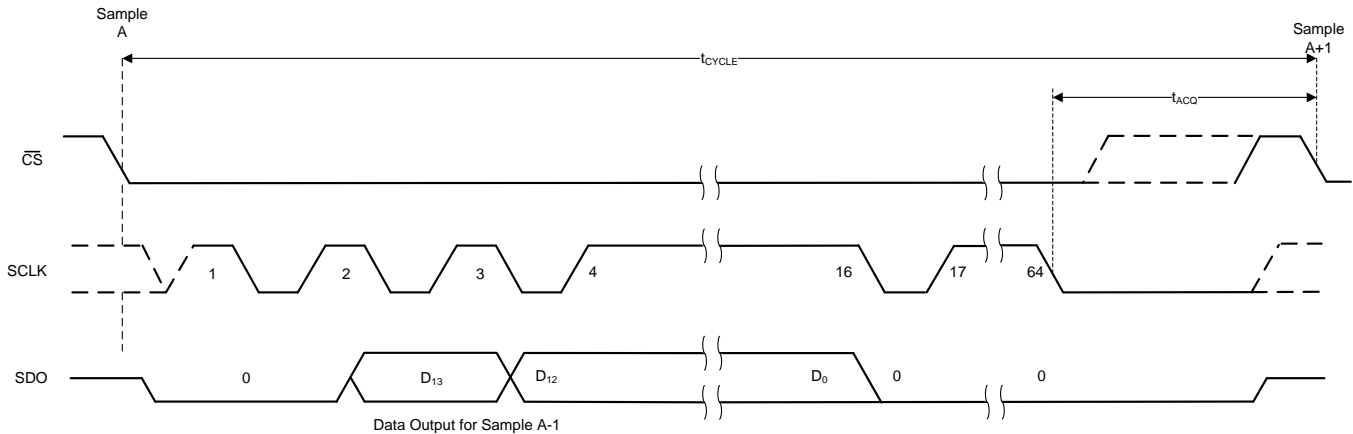

Figure 42. Timing for Offset Calibration During Normal Operation
During normal operation, the host must provide 64 SCLKs in the serial transfer frame to enter the OFFCAL state. The device provides the conversion result for the previous sample during the first 18 SCLKs and 0's on SDO for the rest of the SCLKs in the serial transfer frame. For acquisition of the next sample, a minimum time of t_{ACQ} must be provided. If the host controller enters the OFFCAL state, but pulls the \overline{CS} high before providing 64 SCLKs, then the offset calibration process is aborted and the device enters ACQ state. Figure 42 and Table 3 provide the timing for offset calibration during normal operation.
(1) In addition to the timing specifications of Figure 42 and Table 3, the timing specifications described in Figure 2 and the Timing Requirements table are also applicable for offset calibration during normal operation.